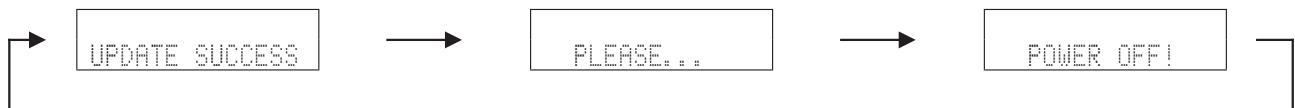

Fig. 3
4. When writing of the firmware is completed, "UPDATE SUCCESS", "PLEASE..." and "POWER OFF!" are displayed repeatedly. (Fig. 3)
4. ファームウェアの書き込み完了後、"UPDATE SUCCESS"、"PLEASE..."、"POWER OFF!" が繰り返し表示されます。(Fig. 3)